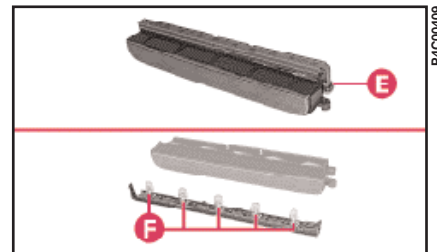

fig. 23
3) Loosen the tab **E** (fig. 23) and separate the bulbs from the lens.
4) Replace the burnt-out bulb **F** (fig. 23).